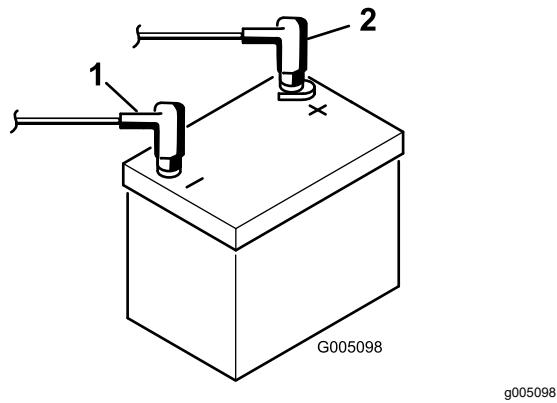

Figure 4
7. Install the positive cable (red) to the positive (+) terminal and the negative cable (black) to the negative (-) terminal of the battery and secure them with bolts and nuts (Figure 4). Make sure that the positive (+) terminal is all of the way onto the post and the cable is positioned snug to the battery. The cable must not contact the battery cover.